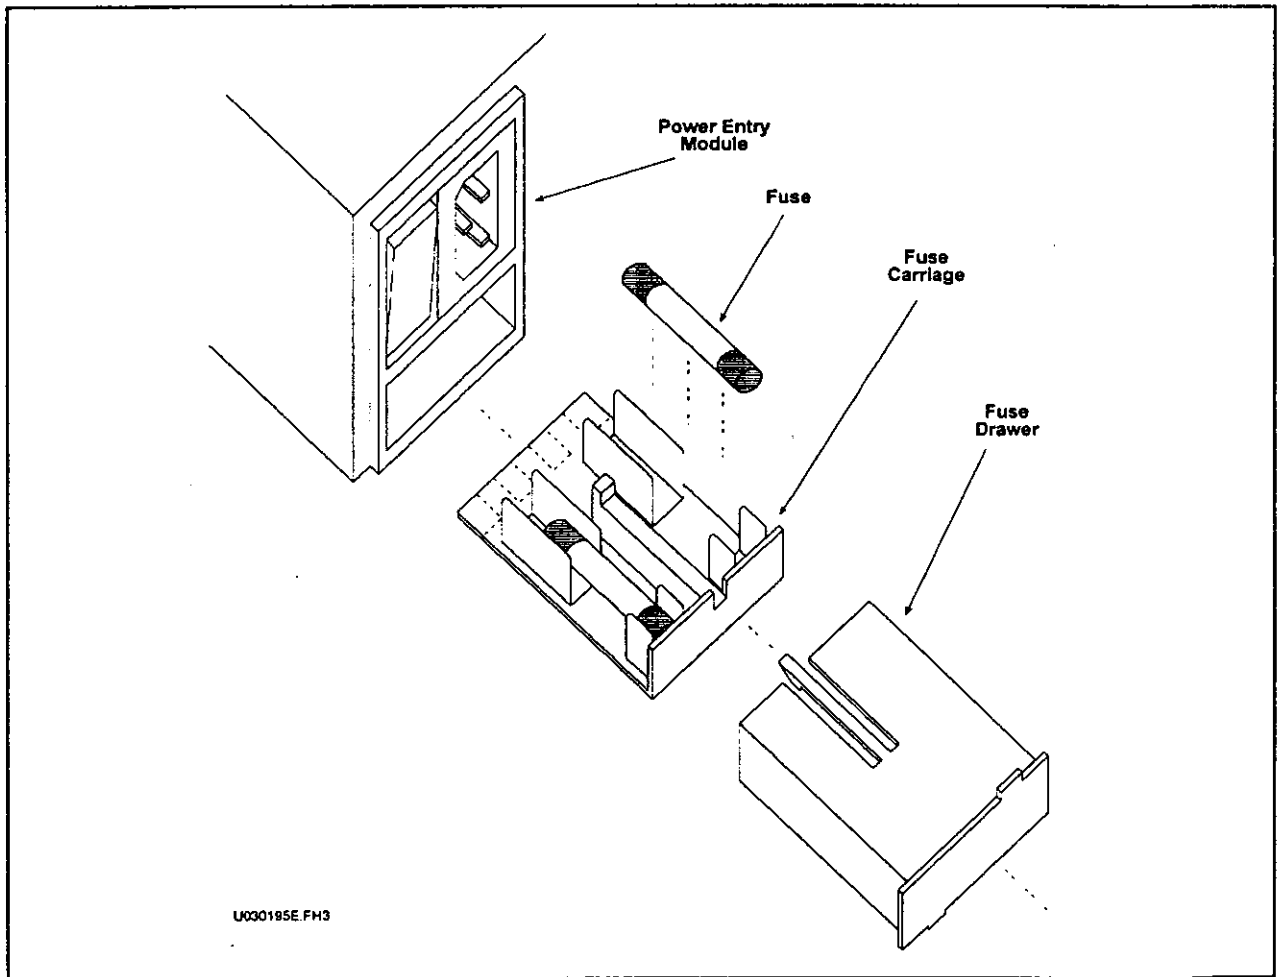

Figure 8. Fuse Removal and Replacement
5. Lift the black plastic retainer on the fuse drawer while simultaneously pulling outward on the fuse carriage. Figure 8 shows the fuse drawer disassembly.